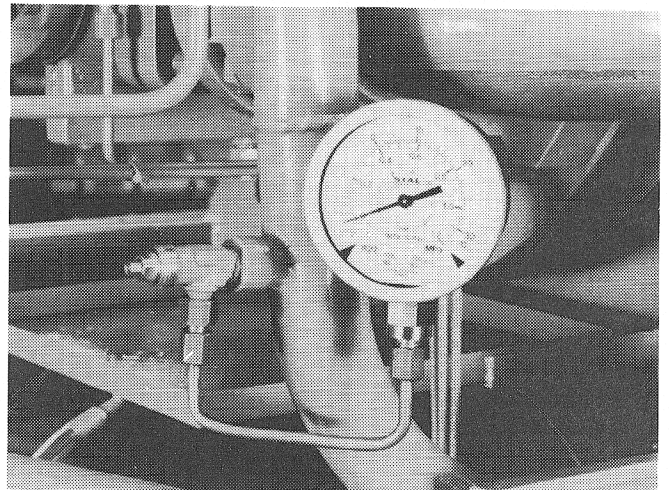

Fig. 26 Service pressure gauge connected to valve AV6
5.8 Check to see that the economizer expansion valve (SV3) is functioning properly. This valve is set during the trial run conducted at the factory. Measure the economizer suction gas temperature using a surface-temperature thermometer. See Fig. 7. Also measure the economizer suction pressure using a service pressure gauge connected to valve AV6. See Fig. 26.